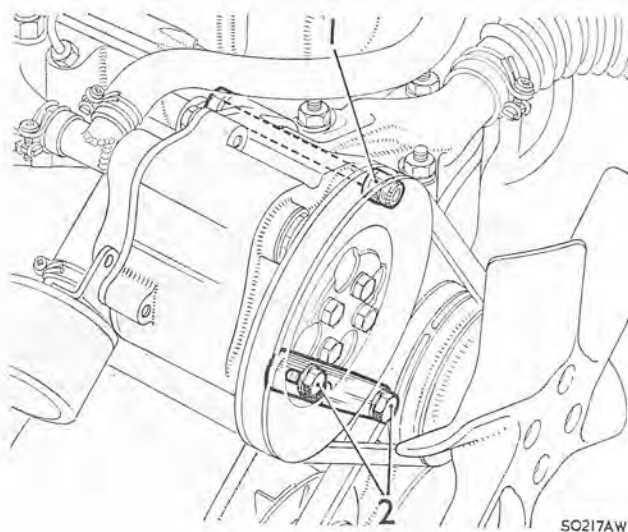

Fig. 3
- (1) Slacken the air pump mounting bolt and adjusting link bolts (see Fig. 3).
- (2) Using hand pressure only, move the pump in the required direction until the correct tension is obtained.